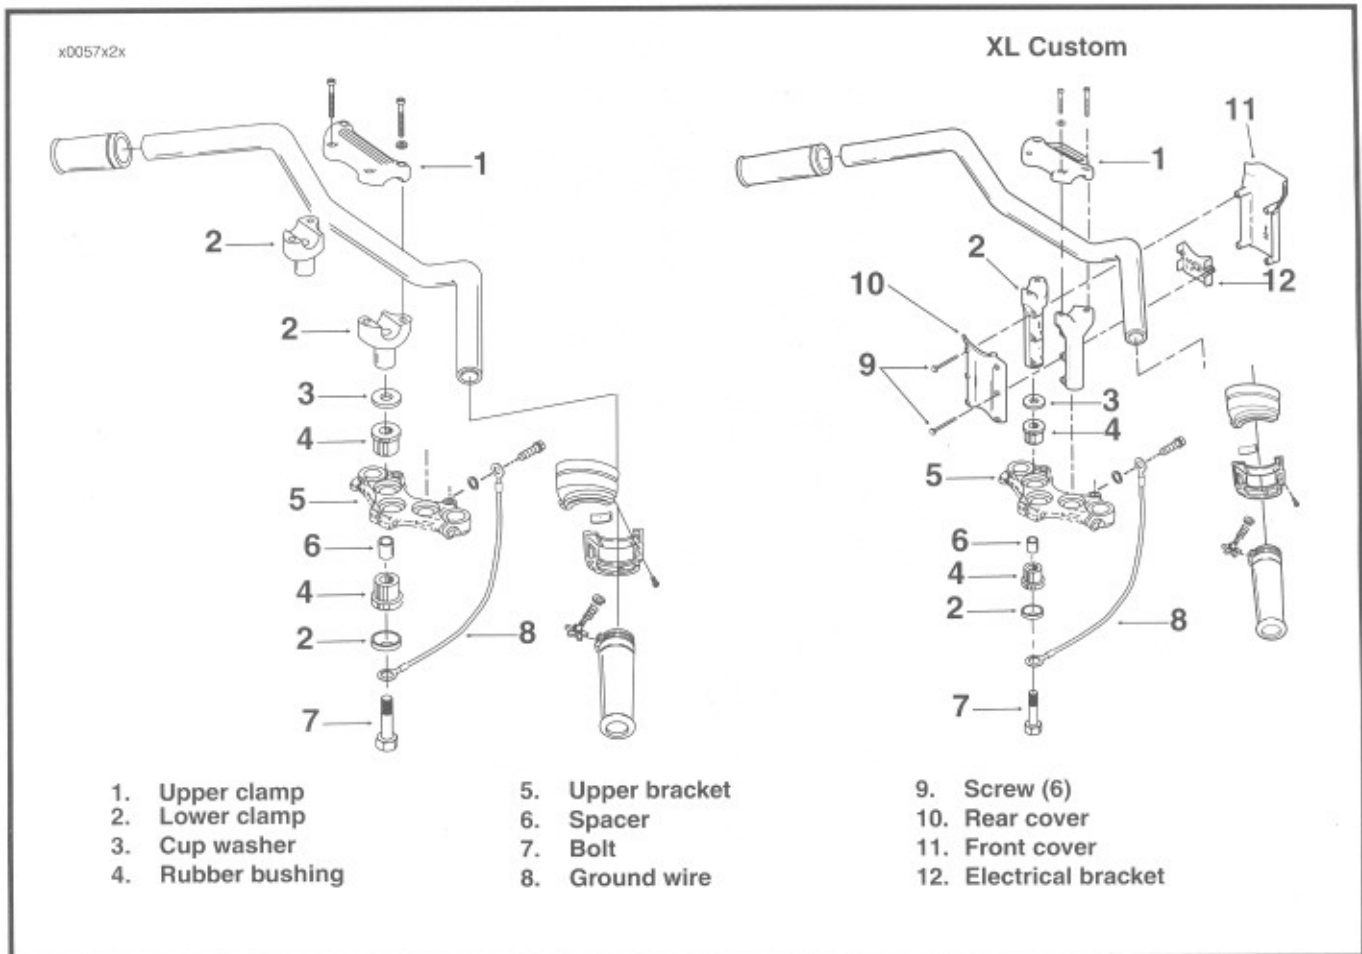

Figure 2-82.
2. See Figure 2-82. Remove left hand controls and switches. Let wires carefully support the switches.
- Remove riser cover screws (9) and front and rear covers (10 and 11).
9. Loosen riser bolts (7). Remove cup washers (3), rubber bushings (4) and spacers (6).
10. Remove ground wire (8) from triple clamp.
1. See Figure 2-82. Install cup washers (3), rubber bushings (4) and spacers (6).
2. Insert riser bolts (7) (Finger tight only).
4. Position handlebar on lower riser clamp (2).